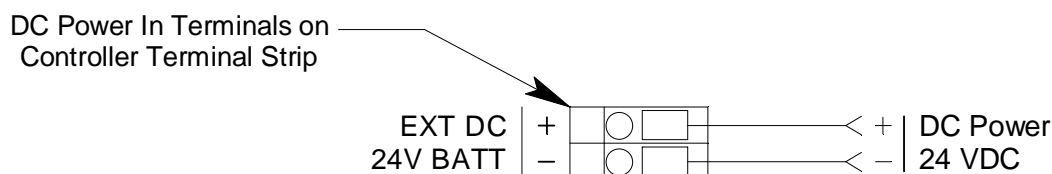

Figure 10: DC Power Wiring
6. Connect the DC power wires to the controller terminal strip as shown in Figure 10 below.